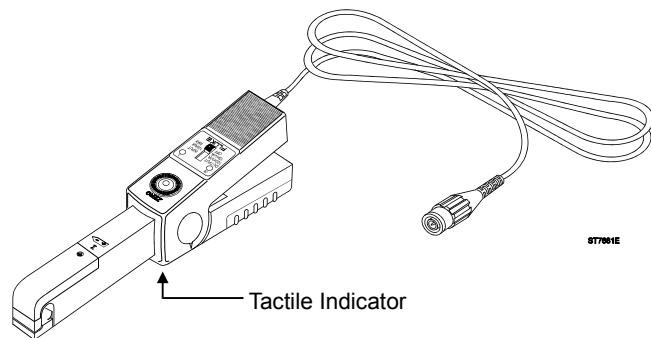

Figure 1. 80i-110s AC/DC Current Probe
- The Fluke 80i-110s is a clamp-on AC/DC Current Probe that reproduces current waveforms found in modern commercial and industrial power distribution systems. The probe's performance is optimized for accurate reproduction of currents at line frequency and up to the 50th harmonic waveform. The 80i-110s is also compatible with any instrument capable of millivolt measurements. The Current Probe (shown in Figure 1) provides the following benefits:
- Do not hold the Current Probe anywhere beyond the tactile indicator, see Figure 1.